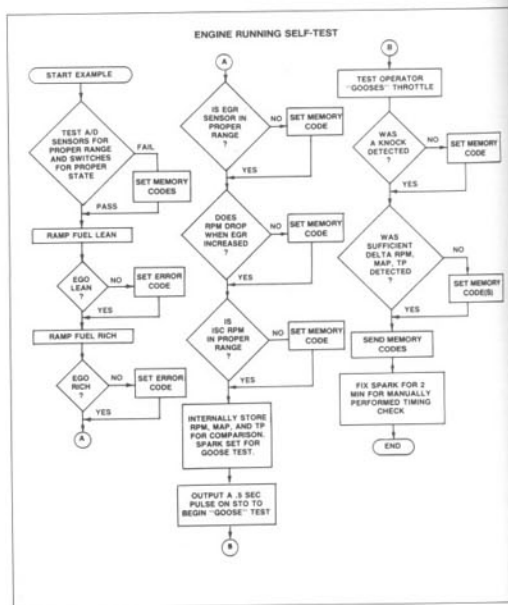

Fig. 4-4. Engine Running (ER) Self-Test.
**ER (Engine Running):** To see what happens when you start the engine in Self-Test, follow the flow chart Fig. 4-4. With the engine running, the control module tests sensors for proper range, tests switches for proper state. Those that fail set memory codes.